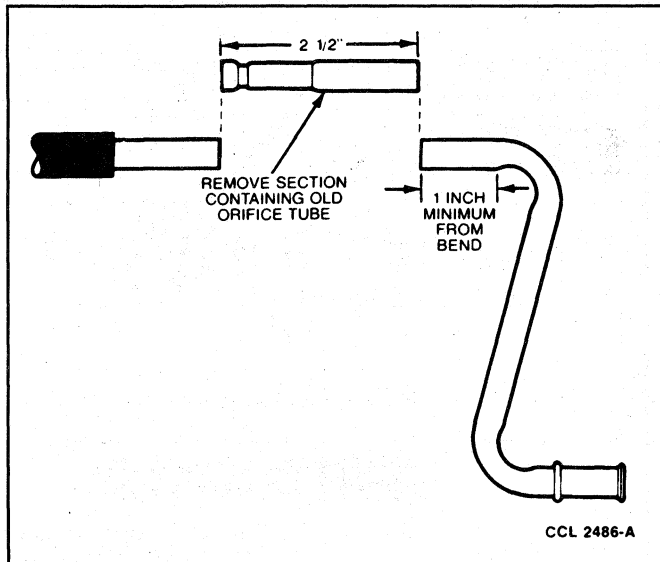

FIG. 5 Orifice Tube Section Removed From Liquid Line
3. Locate the orifice tube by the three indented notches or a circular depression in the metal portion of the liquid line (Fig. 5).